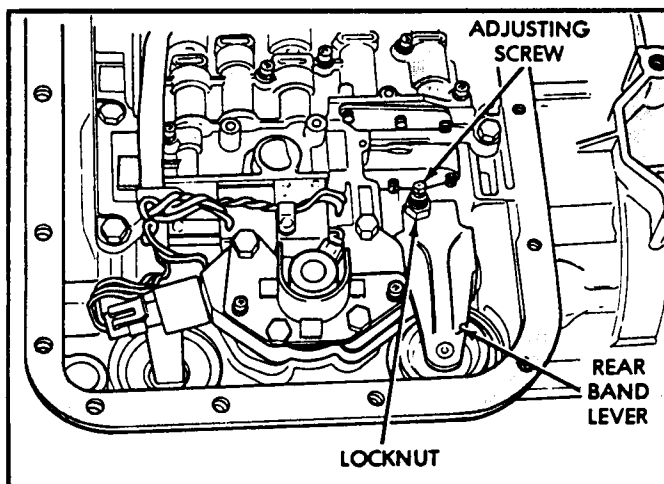

Figure 151
50. Loosen front and rear band screw lock-nuts (See Figure 151).